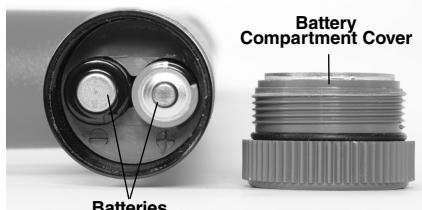

Figure 7 – Changing the Batteries (Receiver)
- With device OFF, unscrew the battery compartment cover on the top tube (Figure 7). If needed, remove batteries.